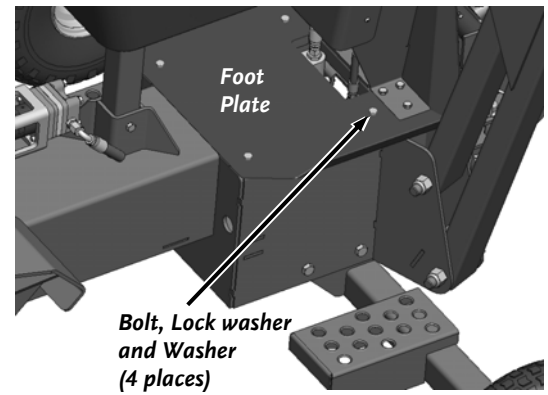

Figure 33
4. Use a 9/16" wrench to remove the four Bolts, Lock Washers and Washers from the Foot Plate and remove the Foot Plate (**Figure 33**).